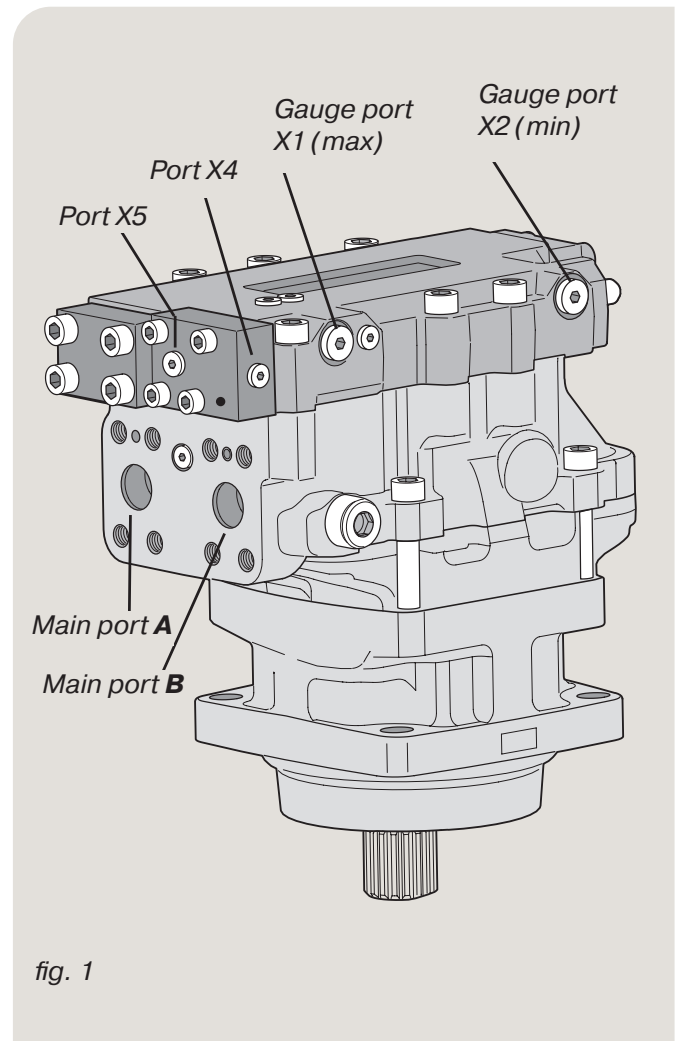

fig. 1
2. Install 0 – 600 bar (0 – 8500 psi) gauges in port X1 and X5; refer to fig. 1.